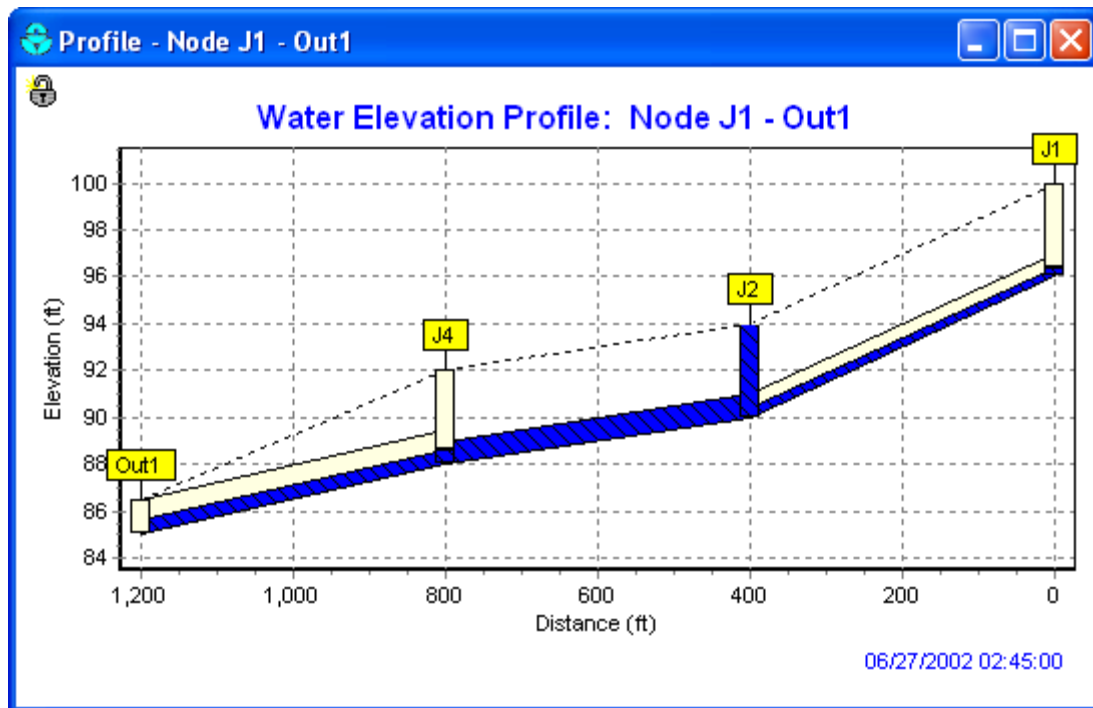

Figure 2-15. Example of a Profile Plot.
5. Click the **OK** button to create the plot, showing the water surface profile as it exists at the simulation time currently selected in the Map Browser (see Figure 2-15).